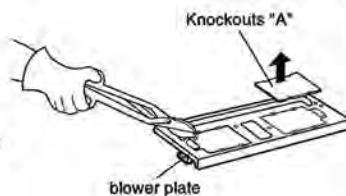

Figure 20
5. Use side cutters or thin snips to cut and remove knockouts "A" from Back plate. Discard knockouts. Be careful not to distort the plate. See Figure 20.